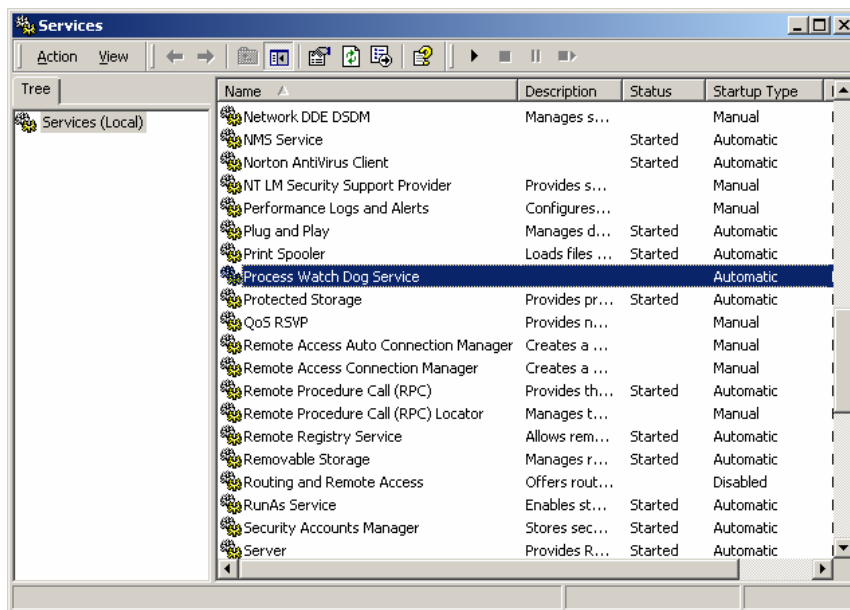

Figure 2-76 [Services] window
- 1) Switch the input and output to the active server. Select [Start/Programs/Administrative Tools/Services]. The [Services] window is displayed, as shown in Figure 2-76.